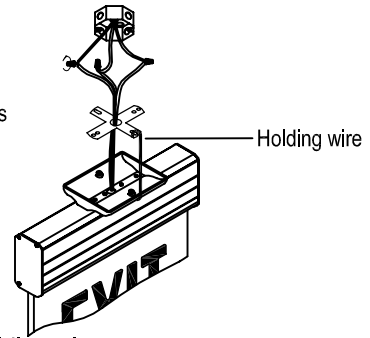

Fig. 4 Using holding wire
6. Feed the leads from circuit board through center hole and make proper connections. See "ELECTRICAL CONNECTIONS" in below. You may use holding wire during wiring (see Fig. 4)